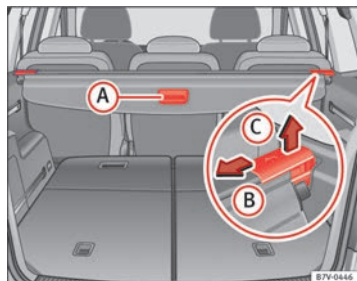

Fig. 91 In the luggage compartment: rear shelf.
- Pull the shelf handle ⇒ fig. 91 (A) backwards.
- Lift the shelf off in direction of the arrow ⇒ fig. 91 **(B)**.